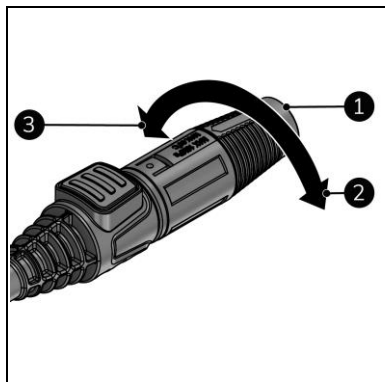

Figure 12
3. Rotate the head of the nozzle (Figure 12, pos. 1) to change the jet angle:
- for a smaller (more powerful jet) turn it clockwise (Figure 12, pos. 2).
- for a bigger (less powerful jet) turn it anti-clockwise (Figure 12, pos. 1).